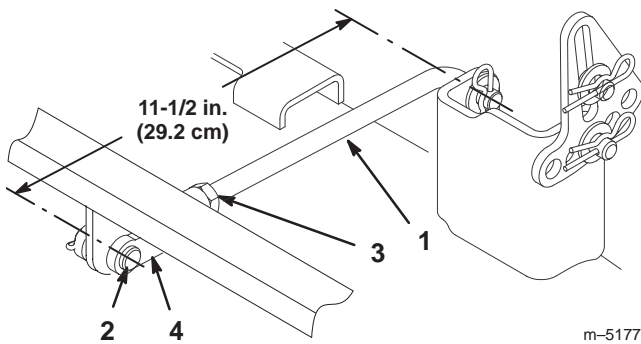

Figure 39
4. Measure the length of the rear trunnion rod (Fig. 39). If the rod length is not 11-1/2 in. (29.2 cm), remove the clevis pin and cotter pin from the end of the rod (Fig. 39), loosen the jam nut, and turn the yoke until the 11-1/2 in. (29.3 cm) dimension is obtained. Then secure the yoke with the clevis pin and cotter pin. Repeat this procedure on the opposite side of the mower.
10. When the front-to-rear blade slope is correct, tighten the jam nuts (Fig. 39 and 41).